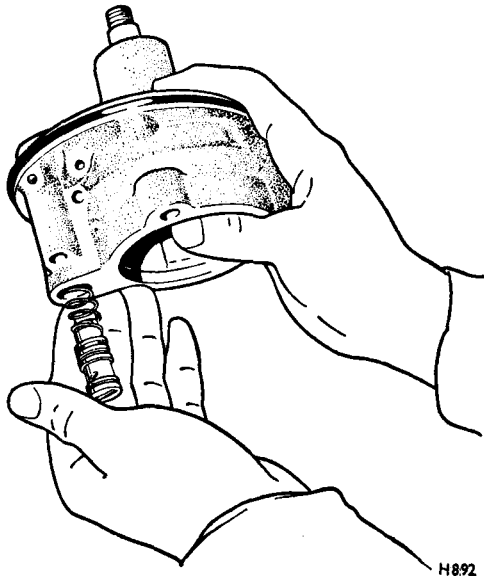

FIG. N13 REMOVING OR FITTING THE FLOW CONTROL/RELIEF VALVE
12. Remove the pump from the vice and invert it. The flow control valve and valve spring can be collected as they emerge from the bore (*see Fig. N13*).
15. Fit the flow control valve and spring as shown in Fig. N13.